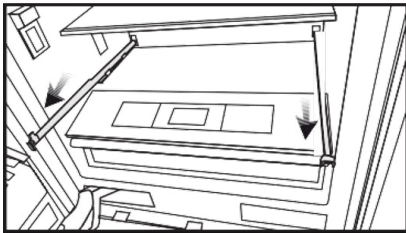

Figure 1
- Pull the sliding rails out completely (see Figure 1).